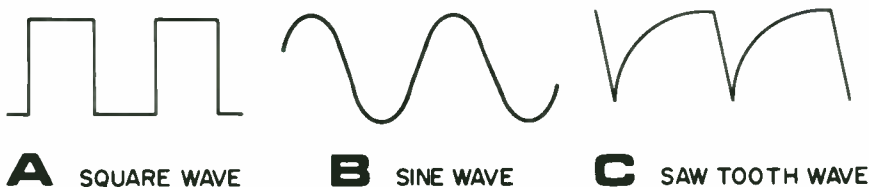
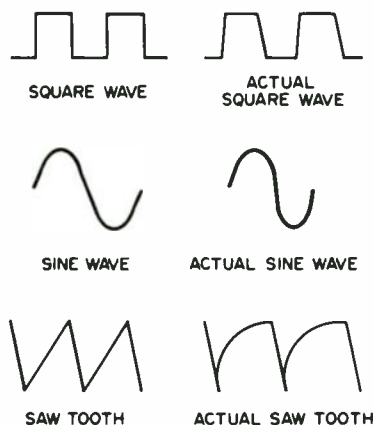

Figure 4 - Oscillator output signals.
Figure 5 - Perfect and practical AC signals.
The capacitor is the simplest device that can be employed to utilize as an oscillator. The charging and discharging of the plates is a result of some oscillating signal that causes the apparent current flow of an AC signal. It does not matter if the signal (generated by the oscillator) is a square wave, a sine wave, or if the signals are pulsating DC or AC. Any of the signals in Figure 4 may be caused by some type of device that is triggered electronically and that amplifies and reamplifies the signals by means of tuned circuits. Whether the oscillator is capable of producing a continuous number of frequencies or only one frequency, it is termed an *oscillator*. *Variable oscillator*, *fixed oscillator*, *crystal controlled oscillator*, *tuned oscillator*, or *spurious oscillations* are terms that mean an AC signal of some sort is being produced by oscillation. While some oscillations are required for a particular circuit, there are also oscillations that are not wanted or needed. A typical unwanted oscillation is called *speaker feedback* and is familiar to anyone who has listened to a public address (PA) system and heard it squeal. The squeal is caused by pointing the microphone at the loudspeaker. The
While the waveforms shown in Figure 4 have a neat appearance, it must be understood that we are always dealing in time and that a perfect wave is impossible to produce. The *square wave* shows an amplitude that is constant at its peaks. It takes time, even if a millionth of a millionth of a second, for the amplitude to move from the top to the bottom of the curve. The oscillator produces a required signal or type of wave, but it is not perfect. If we think of the square wave as switching from one direction to the other with the peaks being constant, the vertical lines should be slanted for the time it takes the wave to reach the other peak (Fig. 5). The *sine wave* is a mathematical computation based on trigonometric functions where the sine evaluation is plotted graphically. Hence, the name *sine wave*. The saw tooth wave is similar to the charging and discharging of a capacitor. There is always the parameter of time. All changes take time.